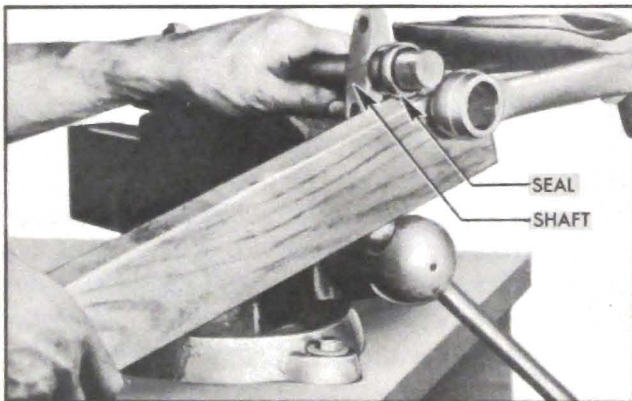

Figure 6-22—Springing Arm Over End of Shaft
5. Insert one end of shaft with the seal in place in one control arm end and force opposite end of shaft into the other control arm end. A piece of wood approximately $1\frac{1}{4}$ "x $2\frac{1}{2}$ "x24" long can be used as a pry. See figure 6-22.